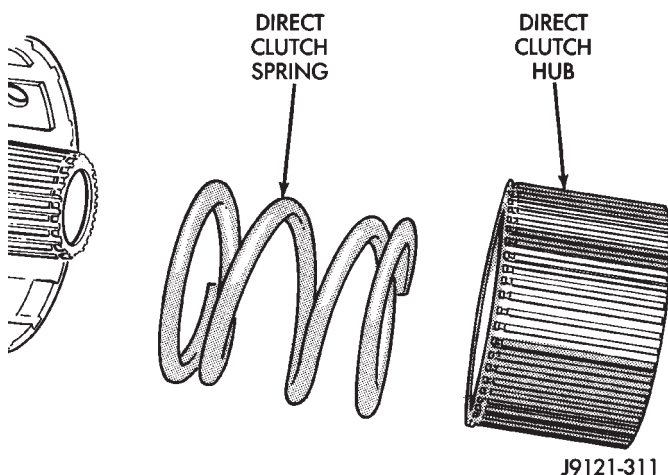

Fig. 210 Direct Clutch Hub And Spring Removal
(1) Remove direct clutch hub and spring (Fig. 210).